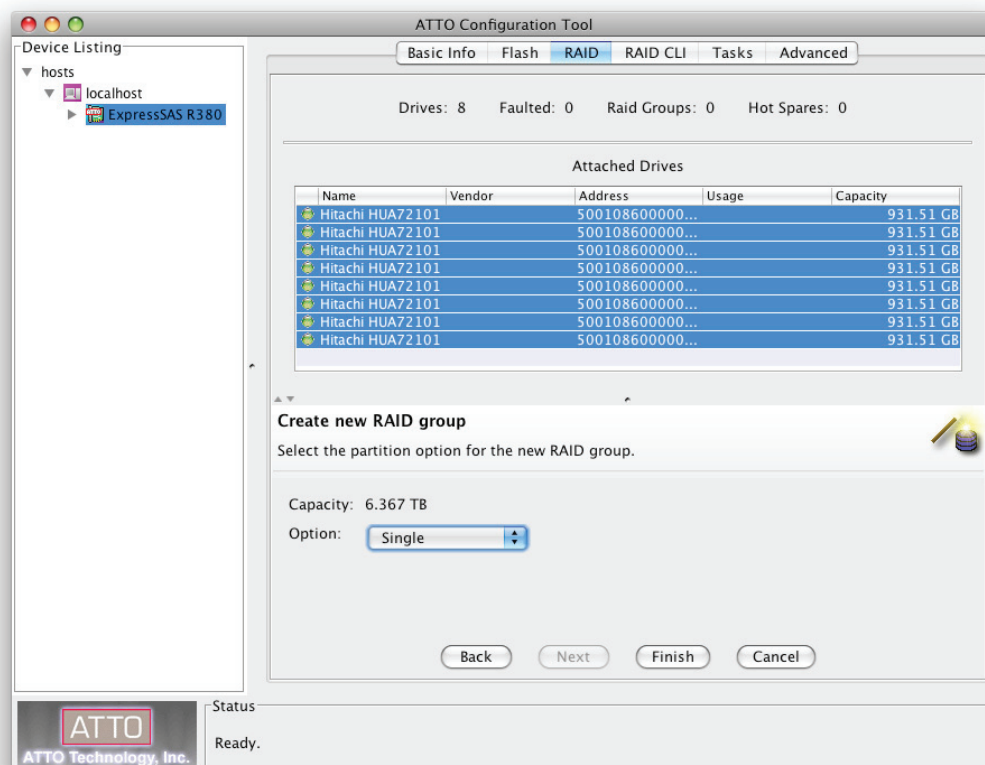

Figure 14
5. If you want the RAID group to be presented as one virtual disk (partition), click **Finish**. If you want more than one virtual disk (partition), click **Next** (see **Figure 14** on page 15), and then select one of the following options: